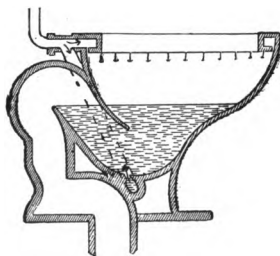

FIG. 348.—SIPHON JET CLOSET
**359. Siphon Jet Closet.** In this type of closet (Fig. 348) we find the best and most up-to-date form. In it the siphonic